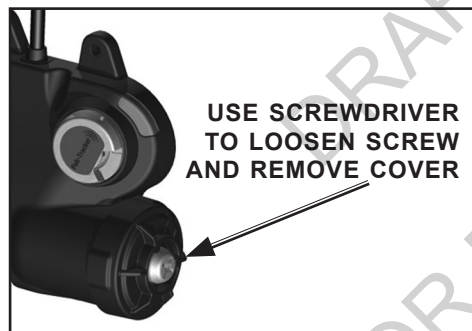

FIGURE 6
3. Use a Phillips driver to remove the Battery Housing Cover as shown in FIGURE 6. Carefully remove the cover and set aside.
5. Install six (6) fresh new “AA” batteries of the same type. **Always replace all batteries at the same time.**